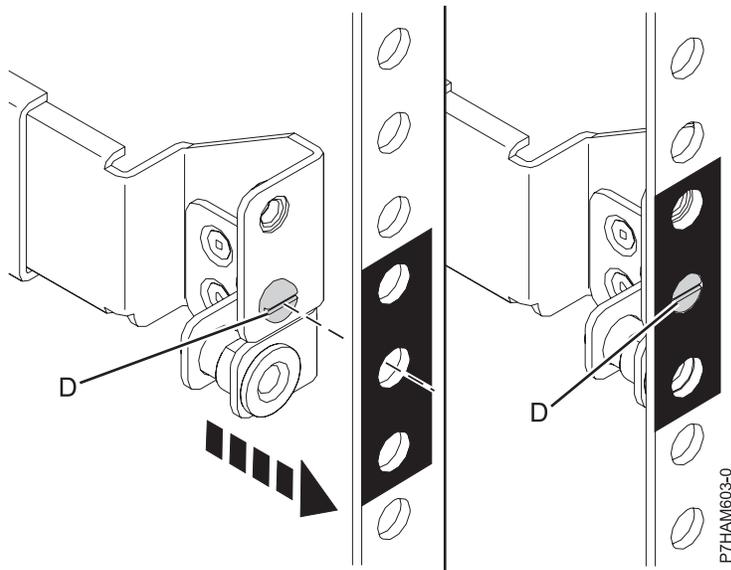

Figure 8. Mounting the rail to the rear of the rack
- e. Seat the alignment screw (D) of the rail into the middle EIA hole that you marked previously, as shown in Figure 8 on page 10.